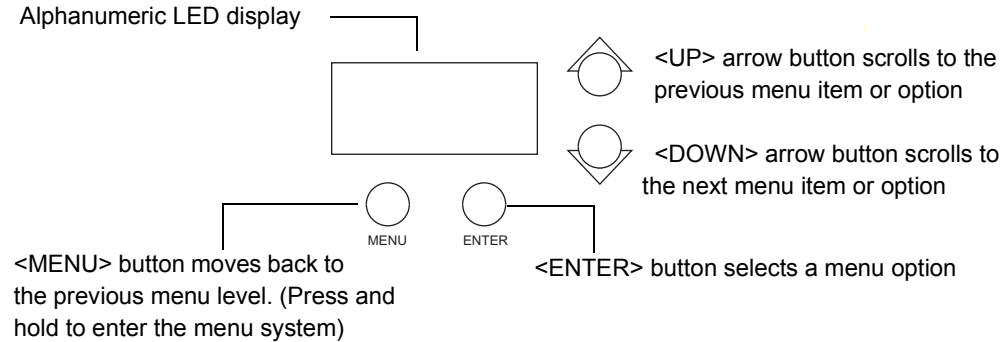

Figure 2-6 ColorPower menu navigation buttons
1. Using ColorPower's menu system (see Figure 2-6 on page 2-10), press and hold the **<Menu>** button until *dMX* appears on the LED display.
1. Using ColorPower’s menu system (see Figure 2-6 on page 2-10), press and hold the <Menu> button until *dMX* appears on the LED display.